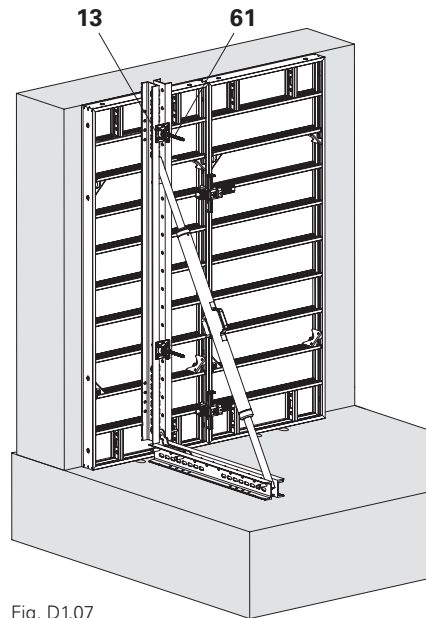
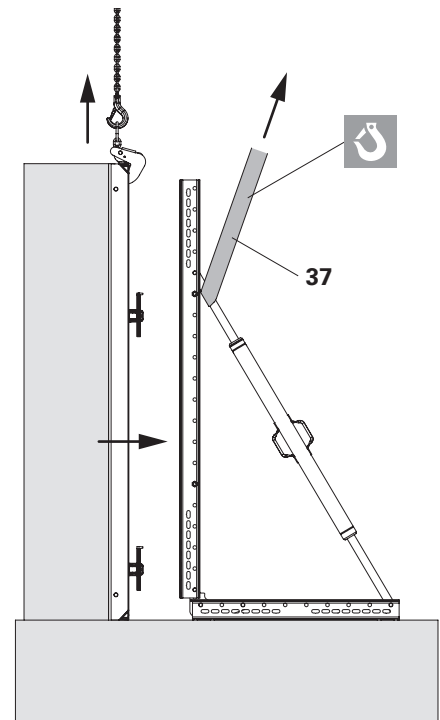

Fig. D1.07
Fig. D1.07a
1. Remove anchoring. (Fig. D1.07a)
3. Remove Waler 85 (**60**), Hook Tie Head DW15 ga (**61**) and Wingnut Pivot Plates DW15 ga (**13**). (Fig. D1.07)
5. Move the formwork unit with the lifting hook of the respective system - take into account Instructions for Use (Fig. D1.07 + Fig. D1.07a)